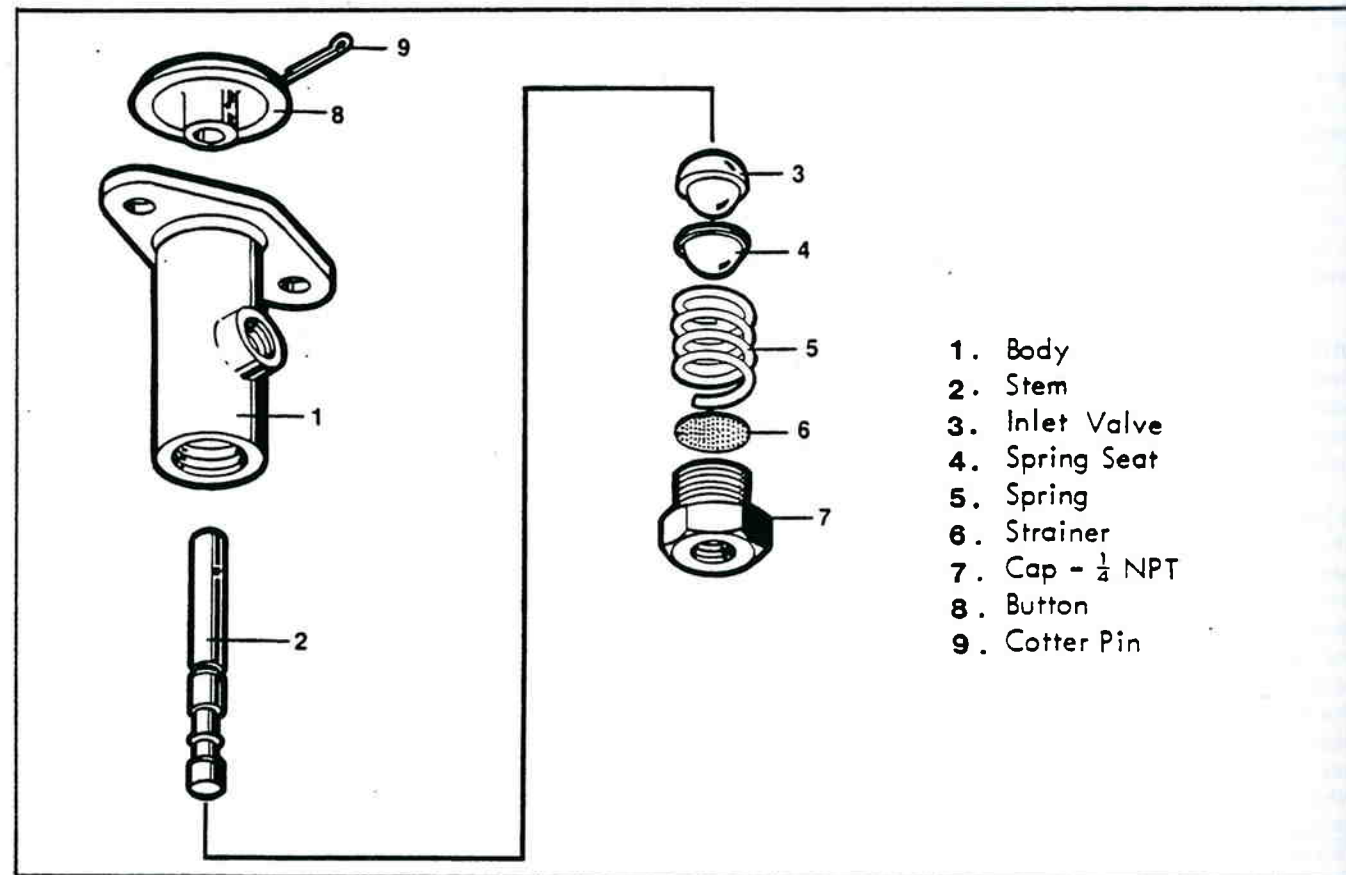

Figure 4-42. Air Horn Valve.
1. Vent the air system. Disconnect air lines to the horn valve. Remove mounting bolts and remove the horn valve. Refer to figure 4-42.